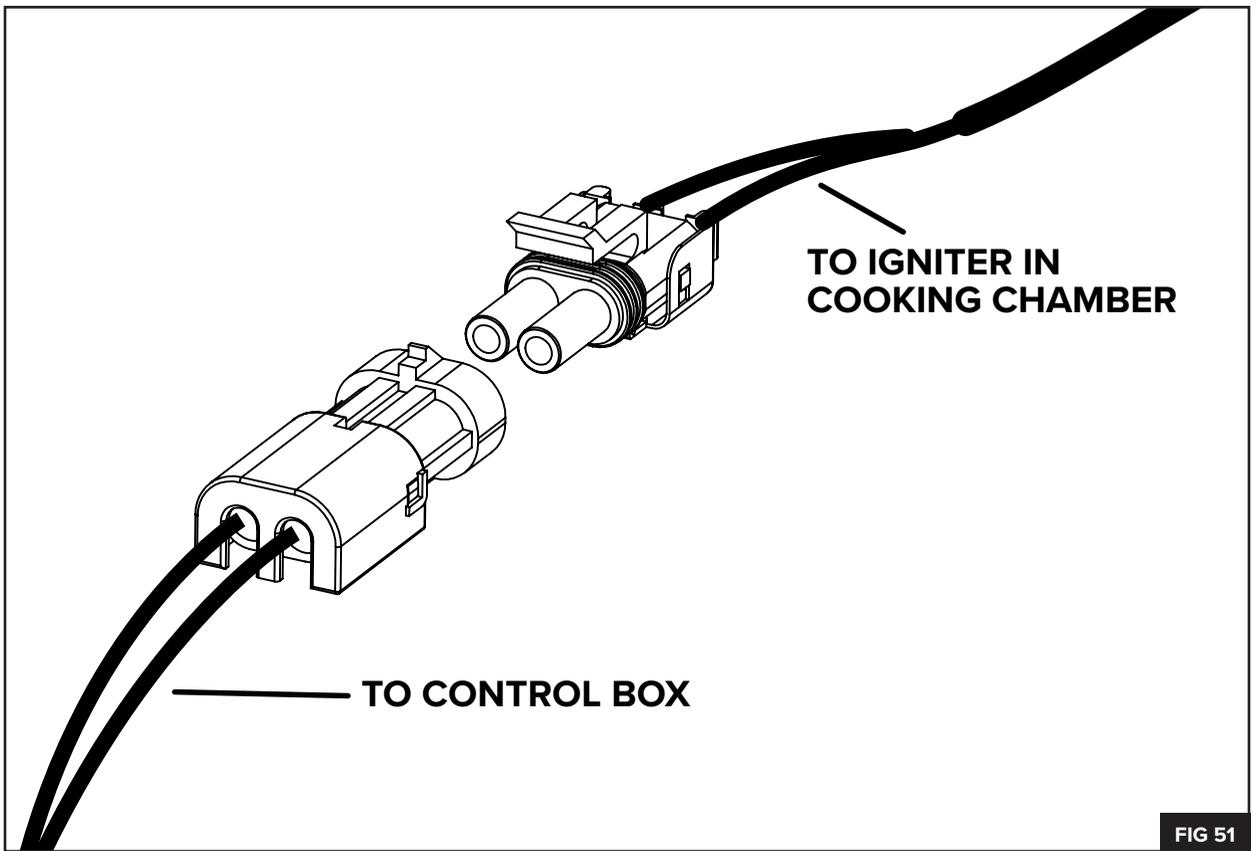

FIG 51
3. Unplug the igniter's weather tight connection and push the wires back into the hopper cavity **(FIG 51)**.